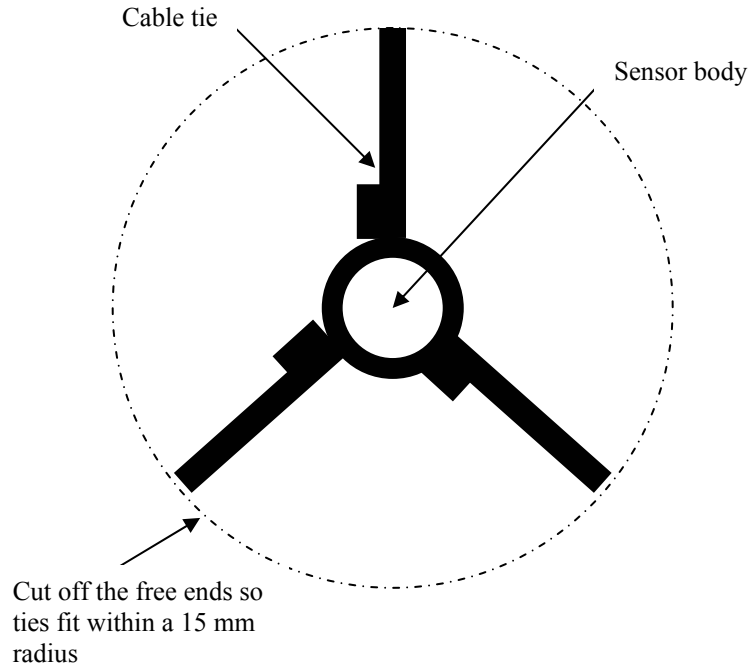

Fig. C-1 Triangular Stand-off Spacer
- b) use three small cable ties around the body of the sensor, cut in length to form a triangular stand-off spacer (see figure C-1 below). The cable ties should not be positioned below or around the sensing part of the sensor. Any spacer should be as small as possible so as not to restrict air flow.